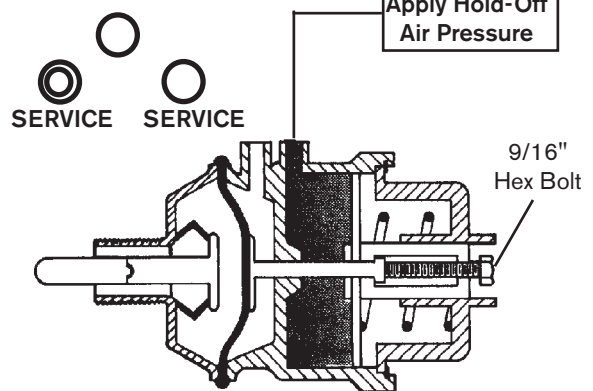

Figure 6a Obsolete Three-Port Actuator
- 2a. Using a 9/16 inch socket wrench, turn the tap bolt counterclockwise until the brake is released (approximately 40 turns). Hold-off air pressure can be removed at this time and service performed. (Refer to Figure 6a).